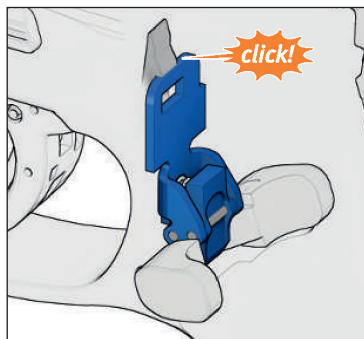

Figure 49 – Push button magazine release components properly reassembled.
3. When the magazine catch is pushed downwards and engages the latching clip, there may be an audible click (Figure 49). Check to ensure the components are properly positioned.